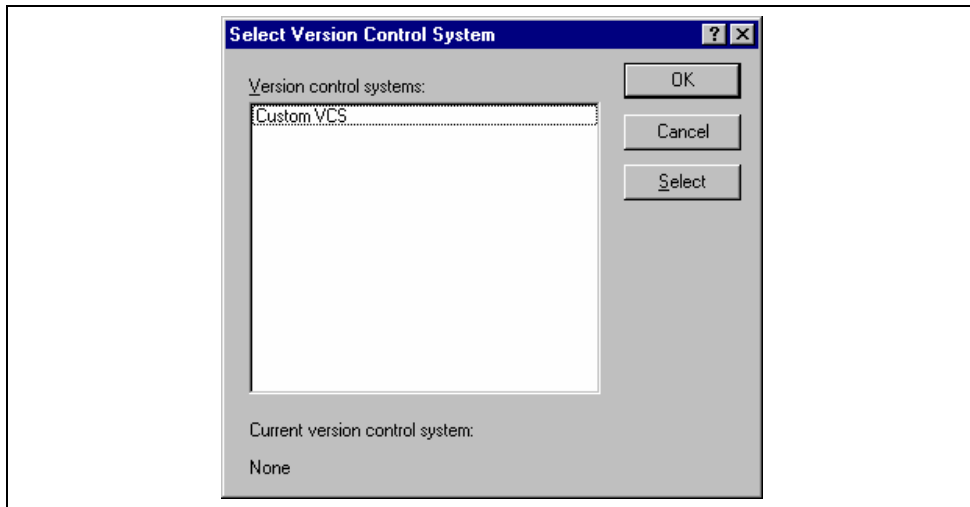

Figure 7.3: Select Version Control System Dialog
1. Select [**V**ersion **C**ontrol->**S**elect...]. The dialog shown in figure 7.3 will be displayed. This dialog lists all of the supported version control systems.
Note: Only those version control systems, which have been installed with the HEW, will appear in the “Select Version Control System” dialog (figure 7.3).